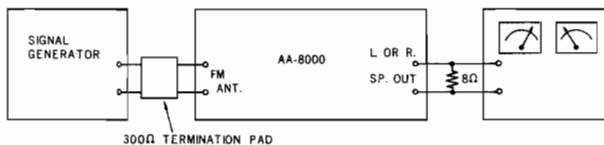

Fig. 9
Use the same instruments as used in item 3-3 (Fig. 9), and connect them in the same way.
Use the same instruments as used in item 3-3 and connect them in the same way. (Fig. 9) Set the signal generator frequency to 98 MHz, and the output to 60 dB (1 mV). Turn the tuning dial of AA-8000 to receive this signal and make sure that the tuning indicator deflects more than 5 mm to both sides from beginning to end of signal reception.